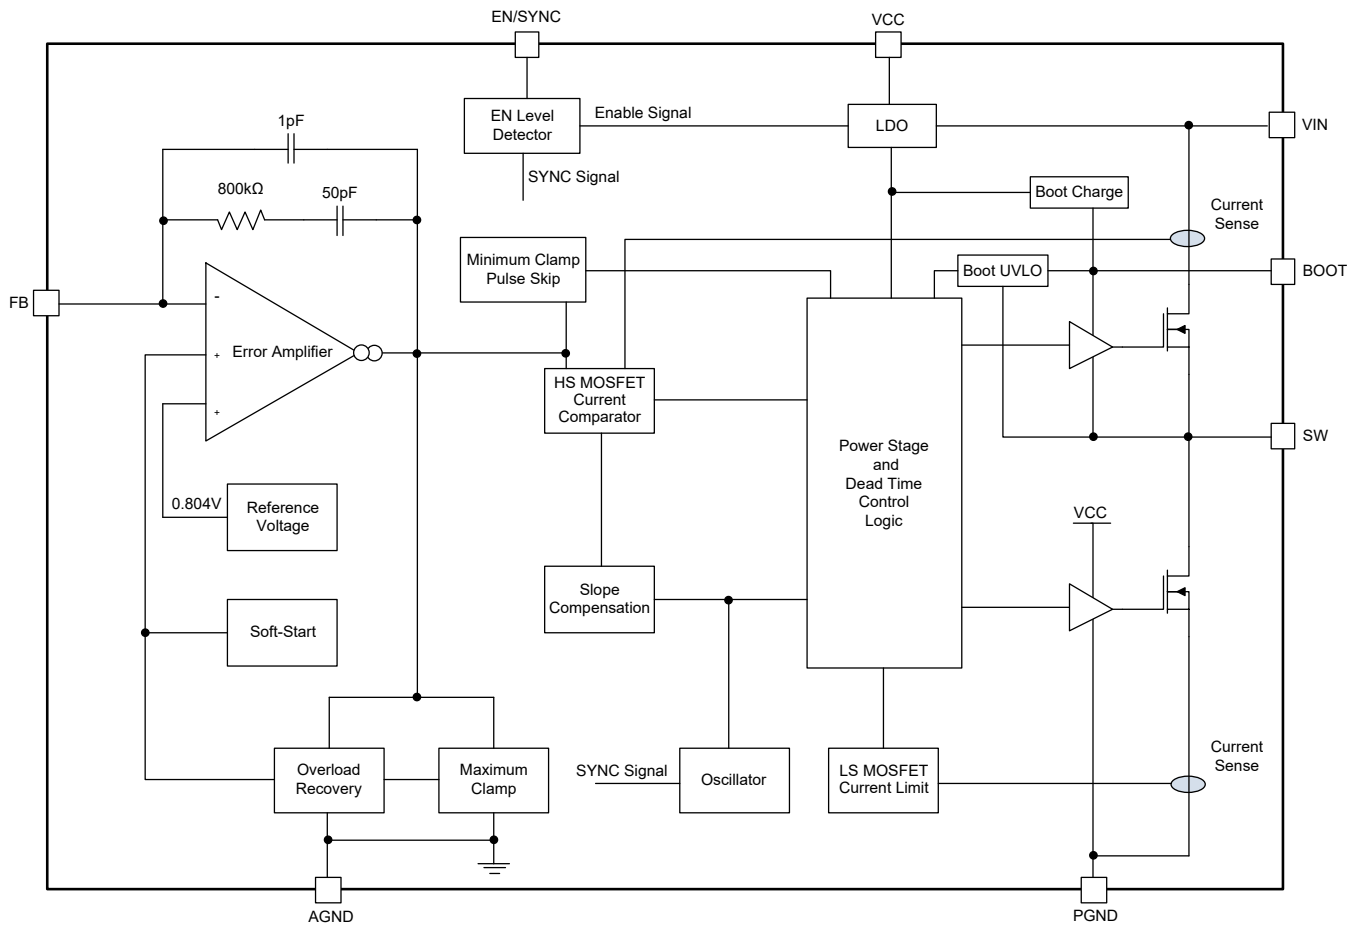
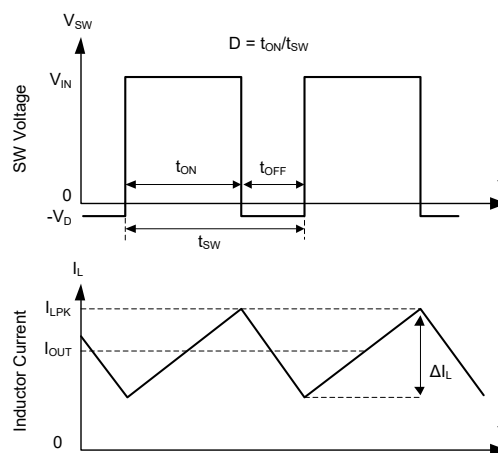
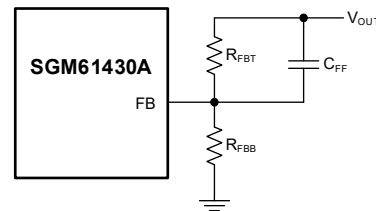

Figure 2. Block Diagram
Figure 3. Converter Switching Waveforms in CCM
Figure 8. Improving Loop Compensation by Feed-Forward Capacitor
The Functional Block Diagram and basic waveforms of these Buck synchronous converters are shown in Figure 2 and Figure 3. The N-MOSFETs are used for high-side (HS) and low-side (LS) (synchronous rectifier) switches. The HS duty cycle ($D = t_{ON}/t_{SW}$) is controlled in closed loop to regulate and maintain the output voltage at a constant level. The switching period is $t_{SW} = 1/f_{SW}$, and the HS on-time is t_{ON} . When HS is turned on, the SW node voltage sharply rises towards V_{IN} , and the inductor current (I_L) starts ramping up with $(V_{IN} - V_{OUT})/L$ slope. When HS is turned off, the LS is turned on after a very short dead time to avoid shoot-through, and I_L ramps down with $-V_{OUT}/L$ slope. When the inductor current is continuous (due to sufficient load), the output voltage is proportional to the input voltage and duty cycle ($V_{OUT} = D \times V_{IN}$) if component parasitics are ignored.
The SGM61430A is internally compensated (see Figure 2) and is stable over the entire f_{SW} and V_{OUT} operating range. However, the phase margin can be low for some ranges of V_{OUT} when low ESR ceramic capacitors are used in the output. In such cases, it is recommended to use a feed-forward capacitor (C_{FF}) in parallel with the R_{FBT} to improve the transient response as shown in Figure 8.
The HS switch over-current protection is natural in peak current mode control. In each cycle the HS current sensing starts a short time (blanking time) after it is turned on. The slope compensation ramp is deducted from the EA (Error Amplifier) output to avoid sub harmonic oscillations and the result is compared to the HS current to determine the HS turn-off time (on-time). See Figure 2 for details. Before comparison, the EA output is clamped to a fixed maximum threshold (I_{HS_LIMIT}) to limit the current. So, the peak current limit of the high-side switch is not affected by the slope compensation and remains constant over the full duty cycle range.
An external resistor divider is used to set the output voltage as shown in Figure 8. Use Equation 12 to set V_{OUT} :